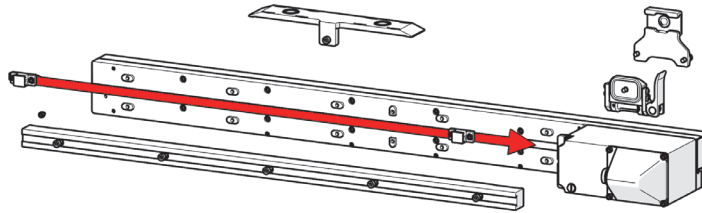

Figure 2-49 Slide cable clips from the raster arm
7. Slide the cable management clips from the raster arm (see Figure 2-49 on page 81).